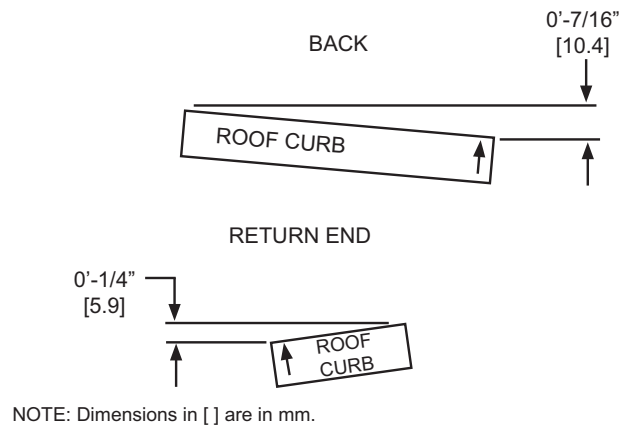

Fig. 4 - Unit Leveling Tolerances
9. Square up the roof curb and position over the duct openings cut in Step 2. Level the roof curb by placing shims (thin pieces of wood or metal) under the bottom flange of the curb. See Fig. 4 for unit leveling tolerances.